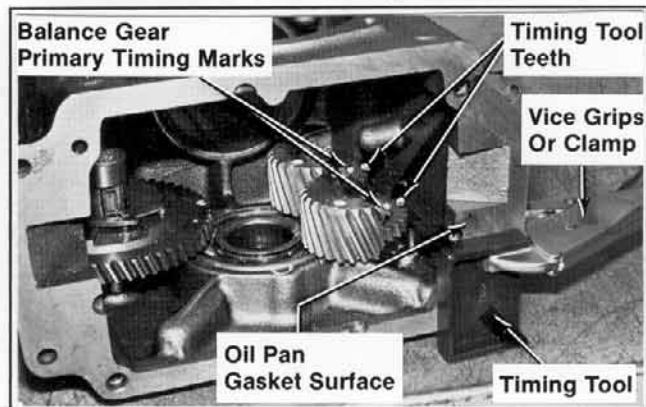

Figure 3. Installing Balance Gear Timing Tool.
- Align the primary timing marks on balance gears with the teeth on timing tool. Insert the tool so it meshes with the gears. Hold or clamp the tool against oil pan gasket surface of crankcase. Refer to Figure 3.